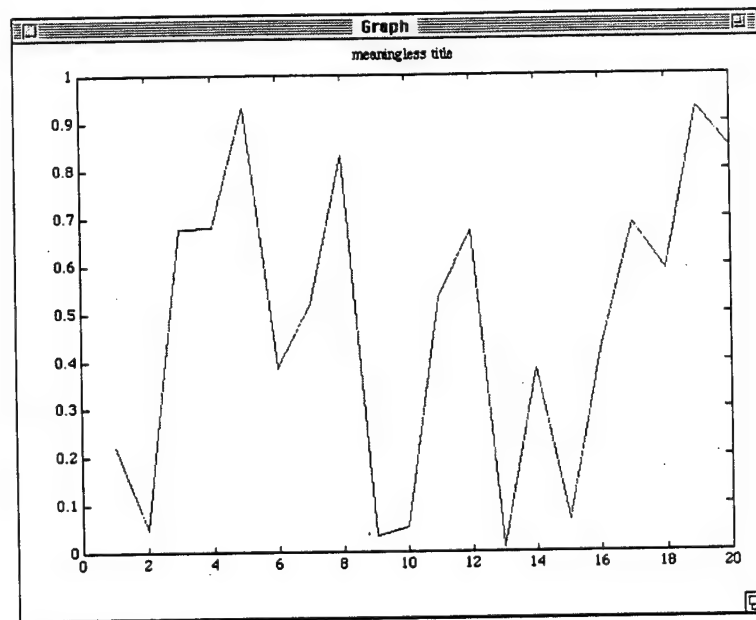

Figure 4.7: Result of `randplot(20)`
- Type the command `>> randplot(20)`. A screen similar to Figure 4.7 should appear.